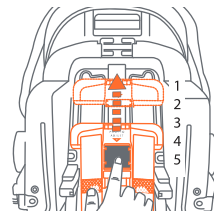

Fig. 32-2
5. Move adjustable seat back to the top position by pressing the blue button and pull up (Fig. 32-2).